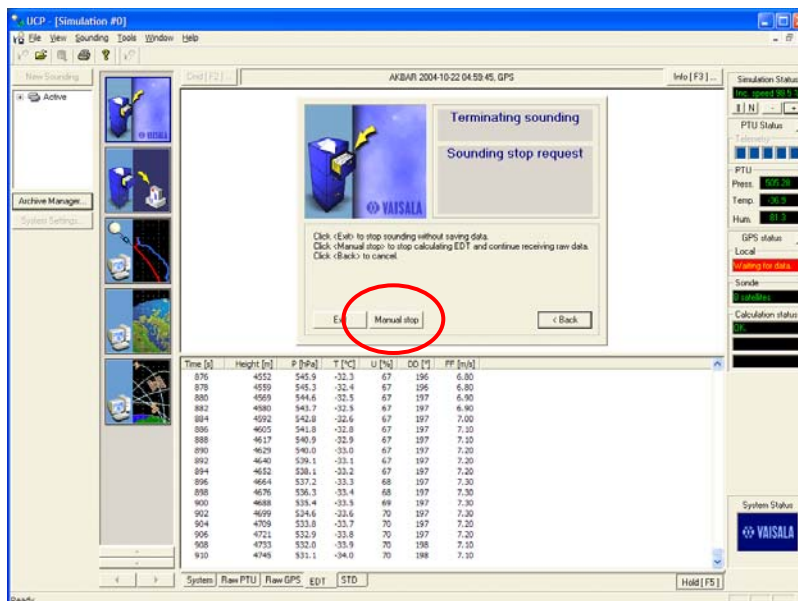

Figure 2
1. Click on the "Manual Stop" button as shown below (Figure 2).